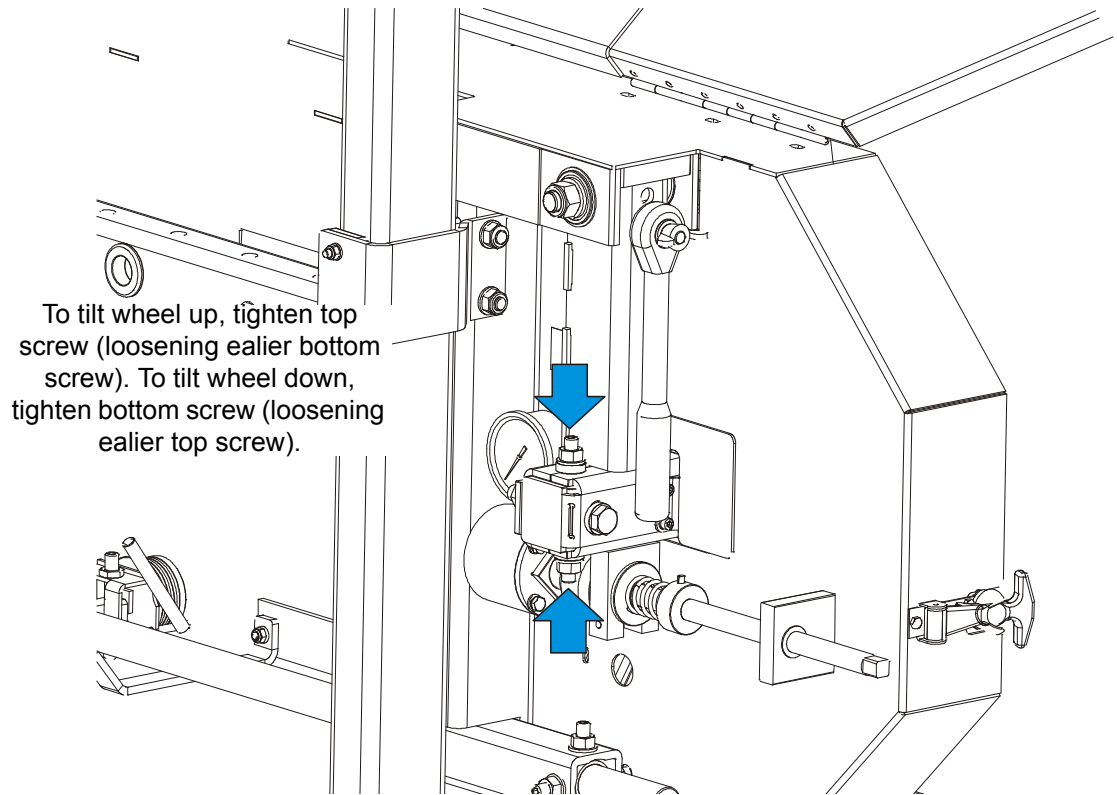

FIG. 3-5
- If the two measurements differ by more than 1/16" (1.5 mm), adjust the vertical tilt of the idle-side blade wheel. See Figure 3-5.
See Figure 3-5. To tilt the idle-side blade wheel up, loosen the bottom adjustment screw 1/2 turn. Loosen the nut on the top adjustment screw and tighten the screw. Tighten the top and bottom nuts.